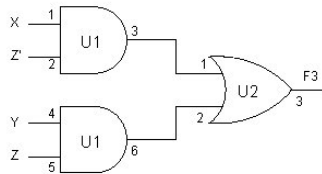

Figure 7. Logic Diagram
- c. Draw a Logic diagram (figure 7)